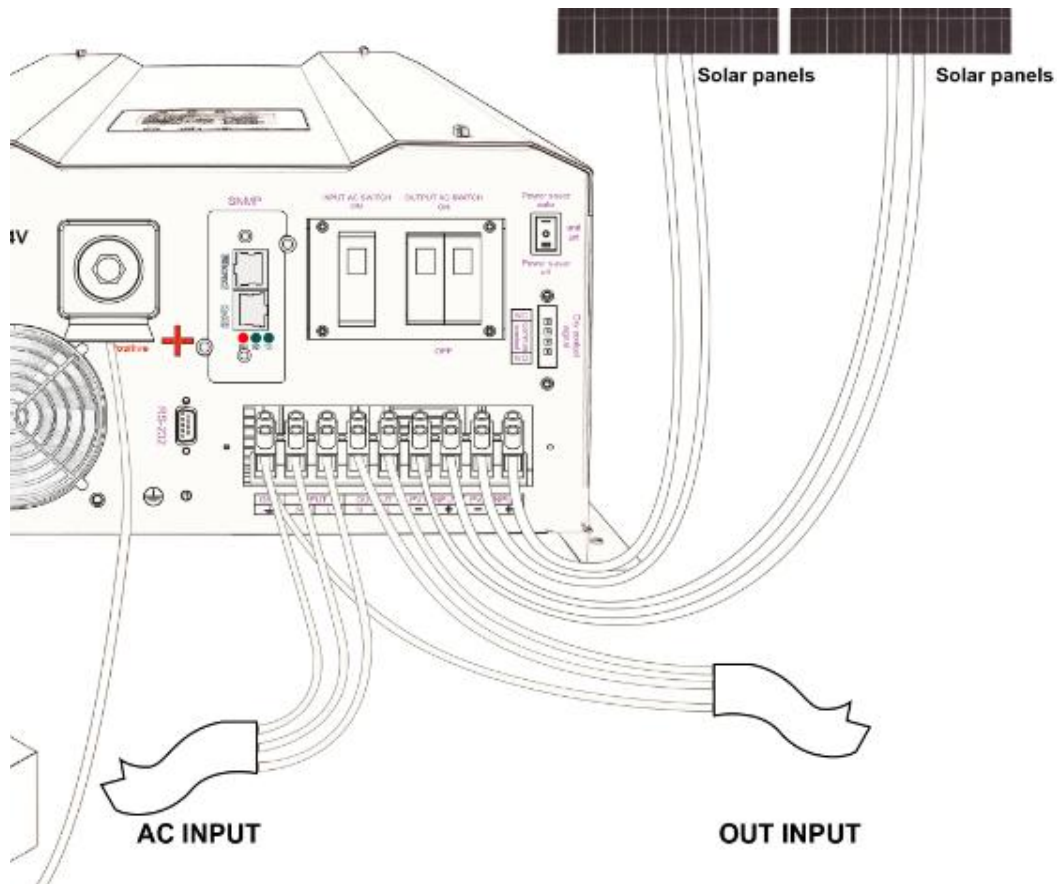

Figure 5. AC Cable Connect to unit
Step 2: Following the wiring guide located in the AC input wiring compartment as figure 5, connect the GND (green/yellow), Line (brown), and neutral (blue) wires from the AC input (utility, generator, etc) to the terminal block.